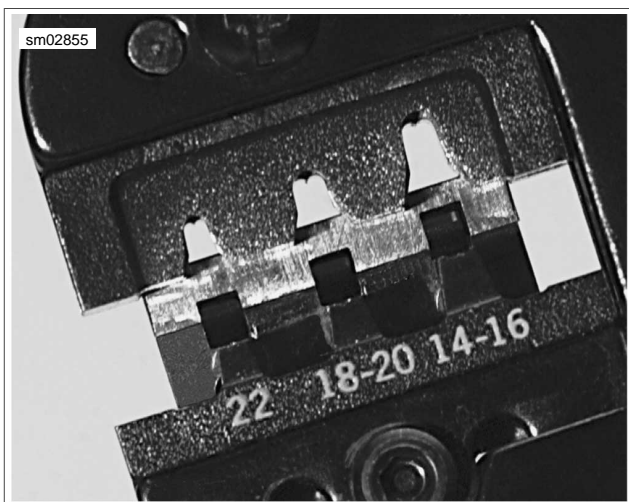

Figure A-34. Square Openings in Socket Locator Bar
1. See Figure A-34. With the crimp tails up, place the terminal through the punch/die into the square opening in the socket locator bar.